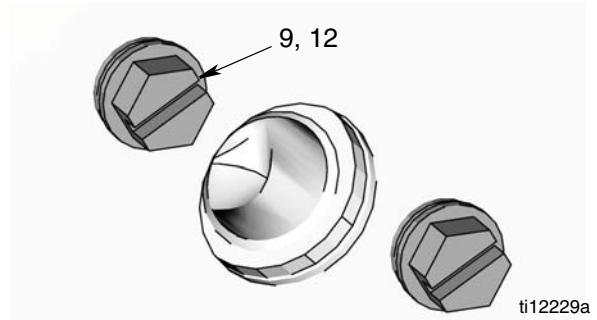

FIG. 27
- Only remove top screw (12) and washer (9) (FIG. 27).